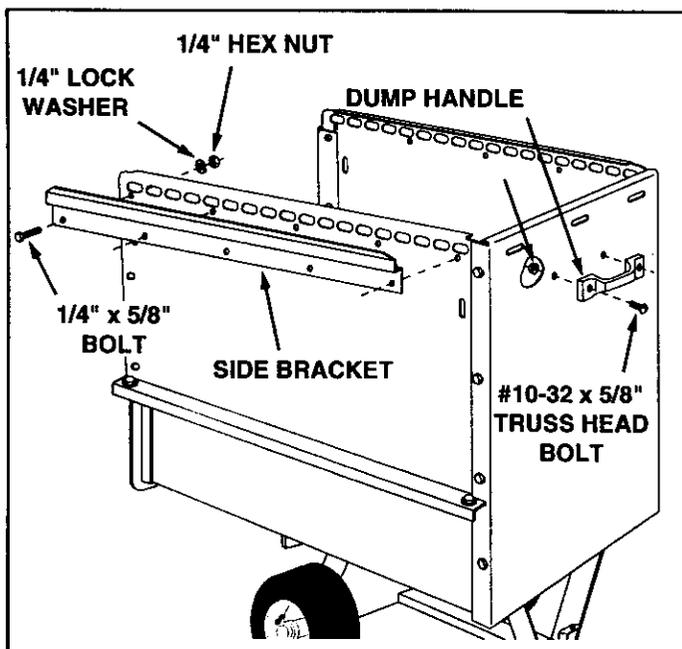

FIGURE 13
- Assemble the dump handle to the front panel using two #10-32 x 5/8" truss head bolts and #10-32 hex nuts. **Tighten.** See figure 13.
- Assemble the a side bracket to the front hole and the two rear holes in a side panel. Use three 1/4" x 5/8" hex bolts, 1/4" lock washers and 1/4" hex nuts. **Tighten.** See figure 13. Repeat for other side.